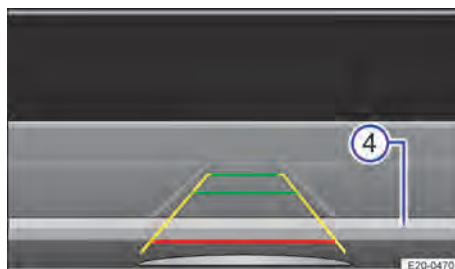

Fig. 132 Infotainment system: aligning vehicle in the parking space.
6. Stop when the red line reaches the rear boundary → Fig. 132 ④.